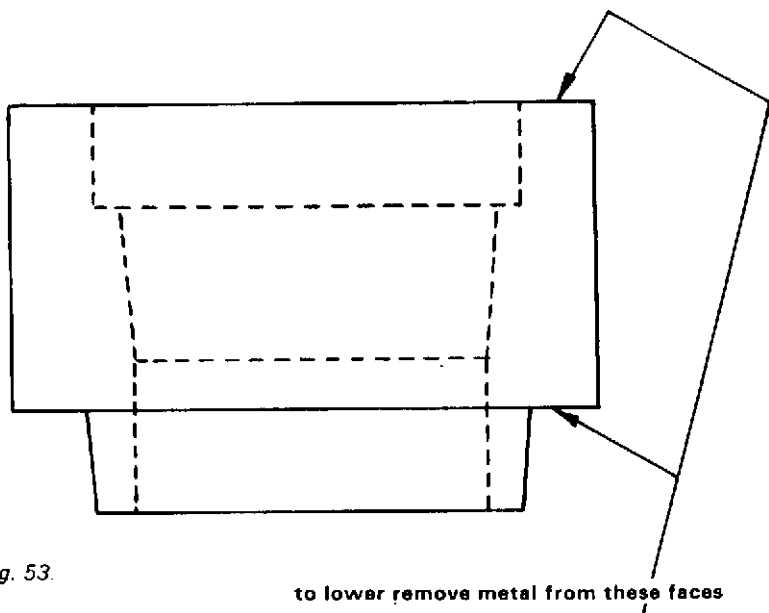

Fig. 53.
S.A.H. has a rate of 380 lb. per inch and a free length of 9.2" which means it is suitable as a straight swap on the earlier TR4. To use the competition springs on the later models we have to reintroduce the aluminium packing piece. If the competition springs are used, additional lowering can be achieved by machining the aluminium packing piece. These can be machined top and bottom to achieve the desired ride height (see Fig. 53). The amount to be taken off the blocks is not in direct proportion to the amount of lowering. The ratio between metal removed from the blocks to the change in ride height is about 5/8:1 i.e. 5/8" off the blocks will lower the ride height by about 1 ". When refitting the blocks do not refit the top rubber packing piece. If the ride height needs to be increased as would be the case for rallying, then this can be simply accomplished. On the early models, with the packing piece, fit the later long spring. On the later models, with the long spring, fit the packing piece. In each case this will raise the ride height of the front by about 1 3/4 - 2" If this is too much, then the packing pieces can be machined to make the necessary adjustments. If the S.A.H. competition spring is used which is 9.2" long, shorter than either standard spring, then the ride height must be adjusted by fitting an additional packing pie - That is, two packing pieces will be needed at the top of each spring, the standard one plus one to make up for the shorter length of spring.